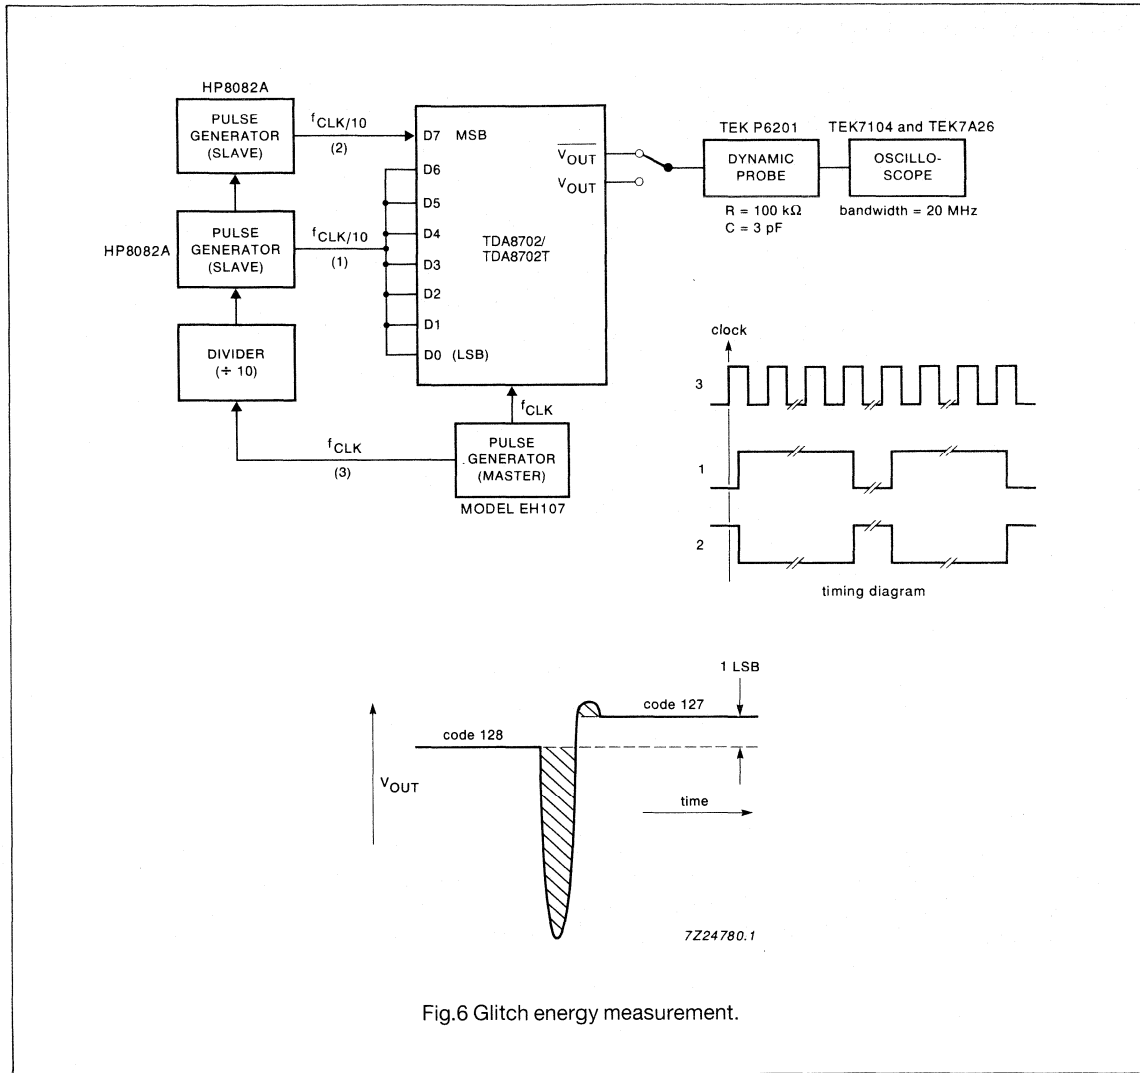

Fig.6 Glitch energy measurement.
Output transients (glitches; $f_{CLK} = 30$ MHz; note 6; see Fig.6)
- The definition of glitch energy and the measurement set-up are shown in Fig.6. The glitch energy is measured at the input transition between code 127 to 128 and on the falling-edge of the clock.
Note to Fig.6